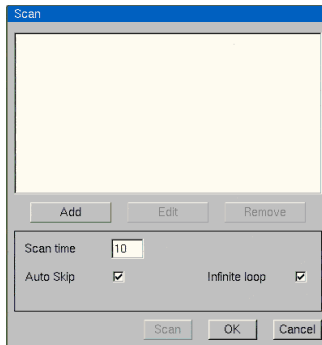

Figure 57 Scan box
1. From the Action menu choose Scan. The Scan box appears see Figure 57.